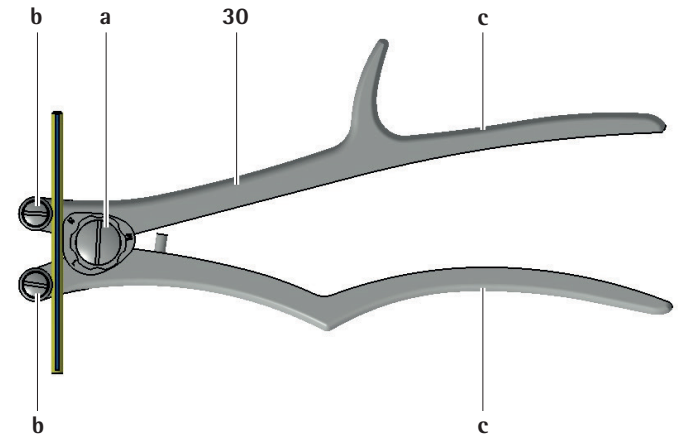

Fig. 24
- ▶ Select the radius (small, medium, large) by pulling and turning the knob **a**, see Fig. 24.